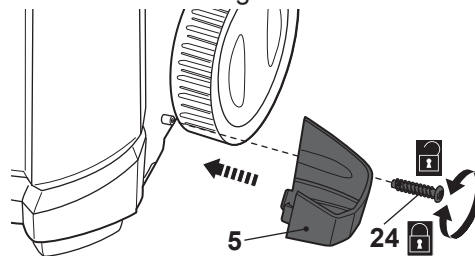

Fig. 2
- > Align the mounting hole and assemble the lower spray gun (with pressure lance) holder (5) onto the product.
- > Secure the connection with the long screw (24) (Fig. 2).